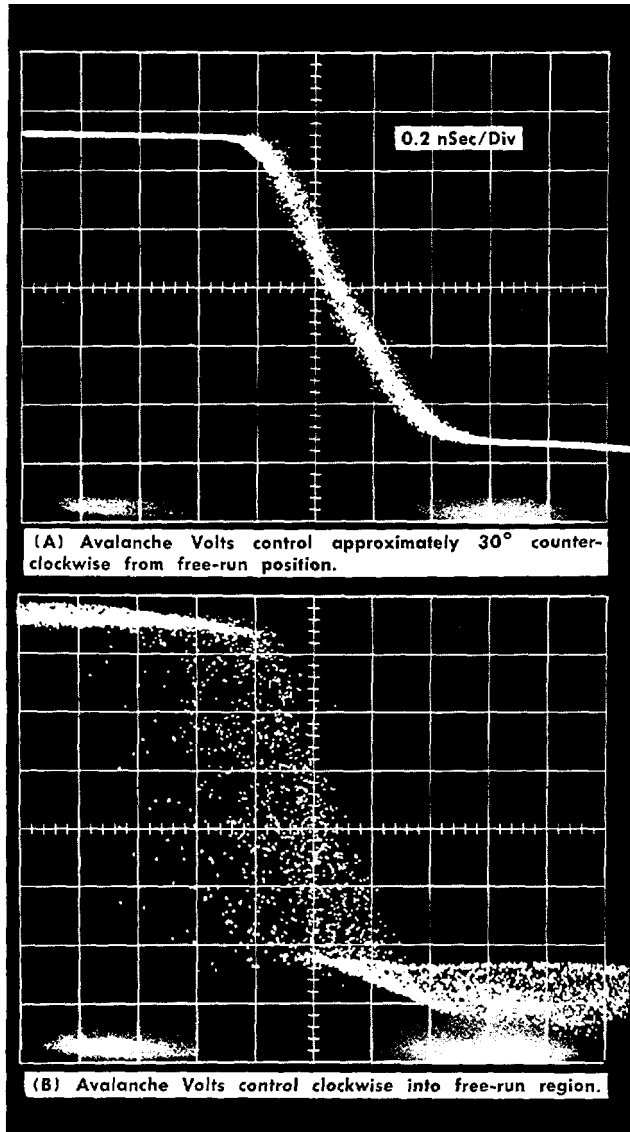
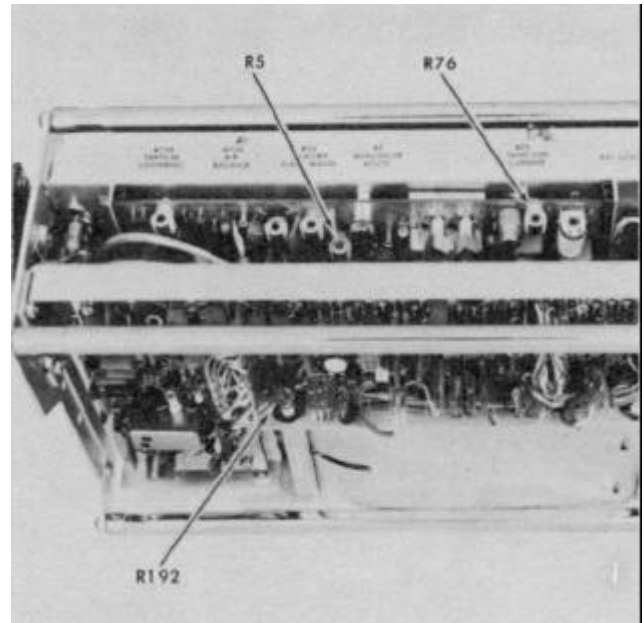

Fig. 8-8. (A) Correct; B) incorrect Avalanche Volts (RS) adjustments.
Fig. 8-9. Locations of Avalanche Volts (RS, Snap Off Current (R76) and Channel A Bridge Balance (R192) controls.
Incorrect Avalanche Volts control adjustment is very obvious through the whole CRT display. Both a correct and an incorrect adjustment are shown in Fig. 8-8. The two displays were caused by approximately 30° difference in setting of the control.
b. With a small blade screwdriver, adjust the Avalanche Volts control, R5 shown in Fig. 8-9 and located on the Center Board, a few degrees clockwise until the display breaks up as shown in Fig. 8-8. Now back the control a few degrees counterclockwise past the point where the display noise disappears.
b. Still displaying Channel A, use the A POSITION control to set the free run trace to the graticule centerline. Change the A mVOLTS/DIV switch to 100, and then to 50 if the trace doesn't move off screen. In either the 100 or the 50 position, adjust the A Bridge Bal control, R192 (location shown in Fig. 8-9) to return the trace to the graticule centerline. It is possible that the control will not have enough range, so leave it at its end of adjustment in the direction that brings the trace closest to the graticule centerline.
k. Set the Timing Unit for 0.1 ns/div sweep rate and measure the negative step 10% to 90% risetime as in Fig. 8-11. If the risetime is other than 0.35 ns, adjust the Snap Off Current control (R75 in Fig. 8-9). Clockwise rotation increases the time between the 10% and 90% points, and also reduces transient response aberrations. Counterclockwise rotation reduces the time between the 10% and 90% points, and increases the transient response aberrations. Set the control for a risetime of 0.35 ns as shown in Fig. 8-11.